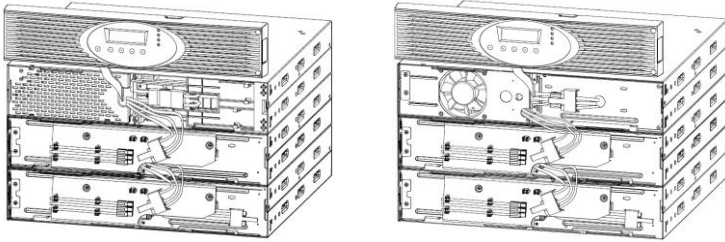

Figure 19: Typical installation of multiple battery modules
4. Stick the cable of the battery module into the battery connection of the UPS system (see Figure 19). Up to four batteries can be connected to the UPS system.